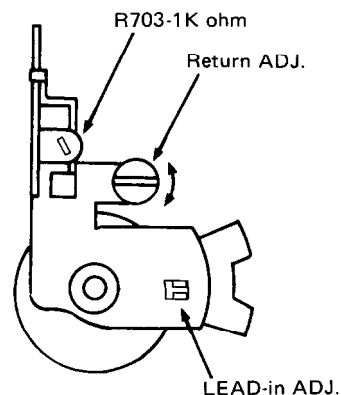

fig. 1
1. Return sensitivity adjustment (fig. 1)